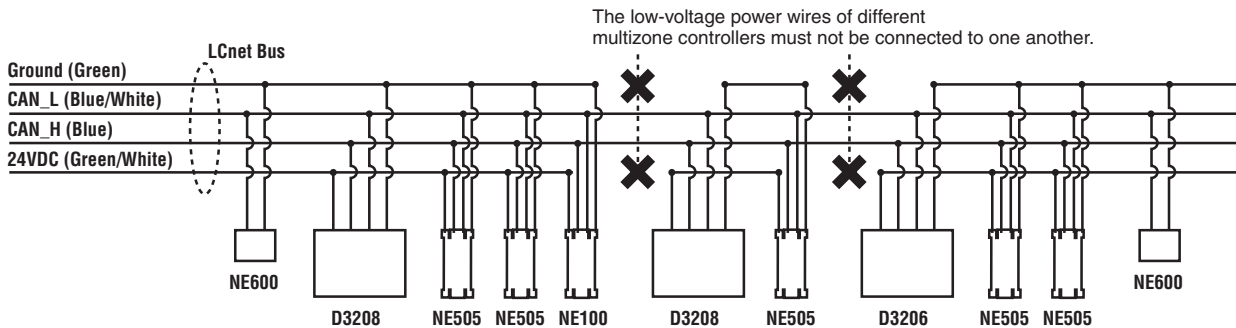

Figure 4-3: Multiple-Zone-Controller System Diagram
- Check the wiring per Figure 4-3.
- If this does not work, check the wiring per Figure 4-3.